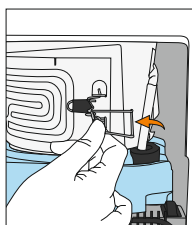

Figure 26
6. Approach the cooler from the rear and open the latch provided on the evaporator band (Figure 26).